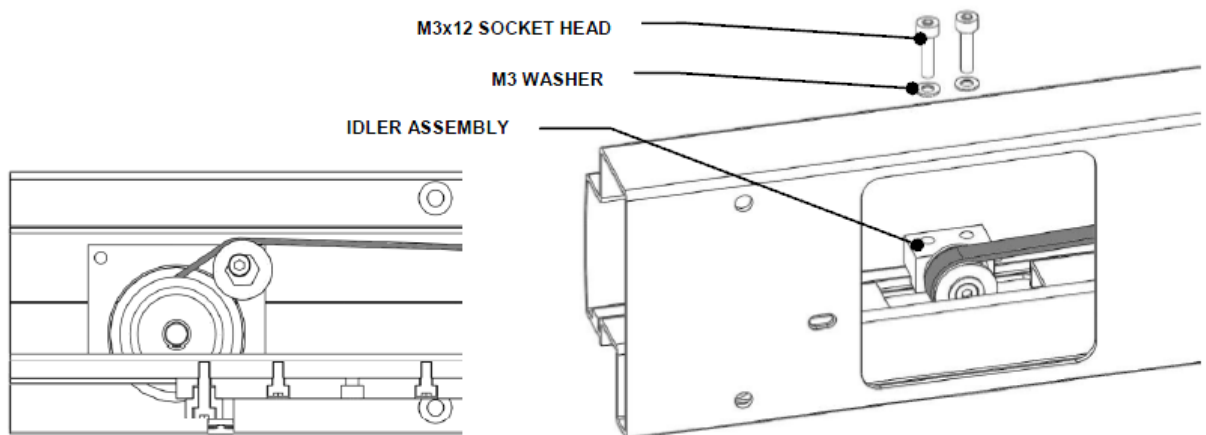

Figure S-11: Removing the Belt
3. Remove the belt from around the Pulley, Eccentric Idler and Idler Assembly (Figure S-11).
1. Pass the belt around the Motor Pulley, the Eccentric Idler and the Idler assembly as shown in Figure S-11. Secure the idler assembly to the X drive Main extrusion using two M3x12 Socket Head Cap Screw, two M3 Washers and Loctite 222.